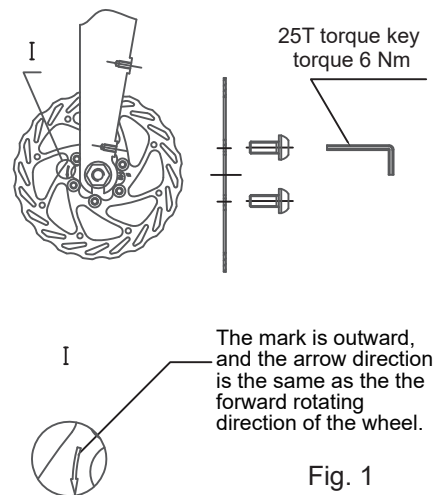

Fig. 1
1. Rotor installation (Fig. 1)